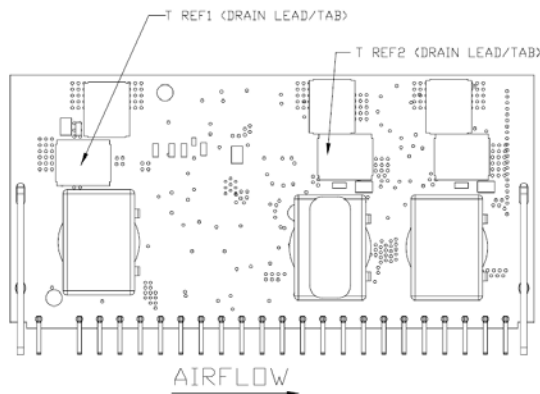

Figure 45. Temperature measurement locations T_{ref1} and T_{ref2} .
The thermal reference points, T_{ref1} and T_{ref2} used in the specifications are shown in Figure 45. For reliable operation these temperatures should not exceed 120°C.